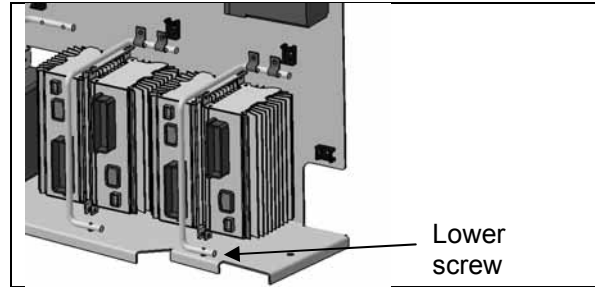

FIGURE 16: IO-B MODULE REMOVAL
- Replace the module (for IO-B modules, disconnect the green connector first, then the grey one and finish with the black connector. To disconnect the black connector, slide downwards the red latch. Remove the lower screw that holds the cable attachment rod onto the floor portion of the panel and flip the rod up, this will relieve the IO-B module, see Figure 16).